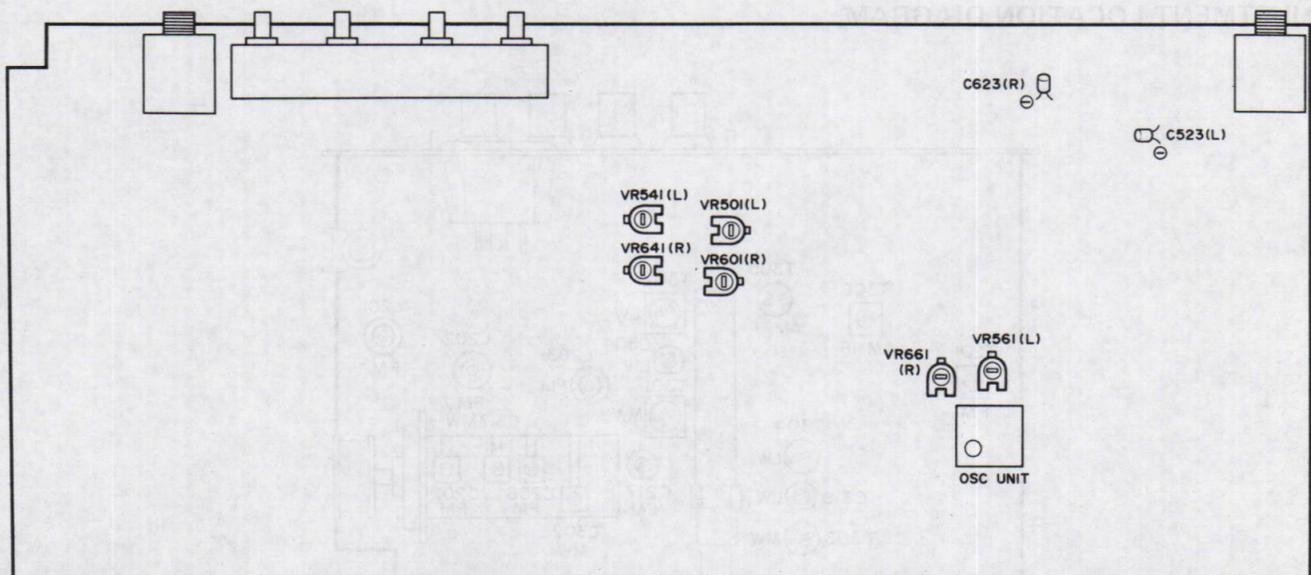

Fig. 7
- 4) Connect the (-) lead of a MItimeter to pin 1 (main body side) of connector CON-8 and connect the (+) side of tester to the brown lead wire disconnected from pin 1. See Fig. 7.